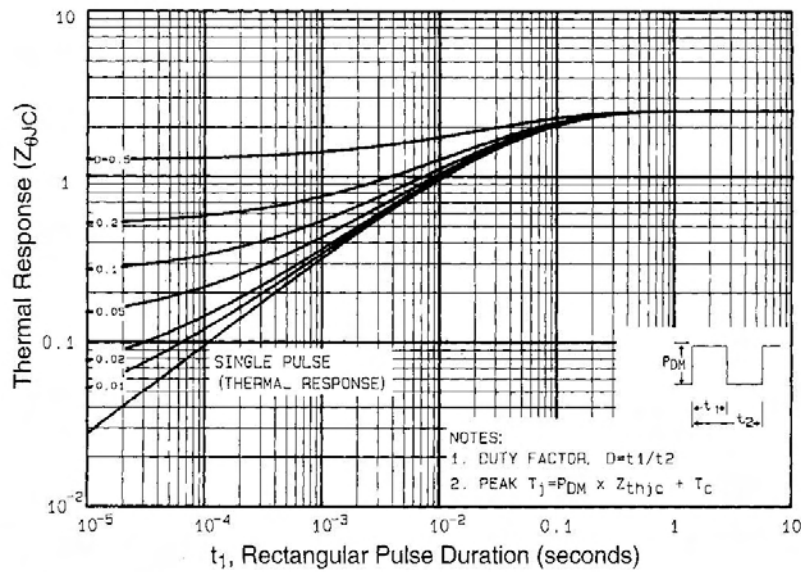

Fig 11. Maximum Effective Transient Thermal Impedance, Junction-to-Case
- ① Repetitive rating; pulse width limited by max. junction temperature (See Figure 11)
- ② $V_{DD}=50V$, starting $T_J=25^\circ\text{C}$, $L=6.1\text{mH}$